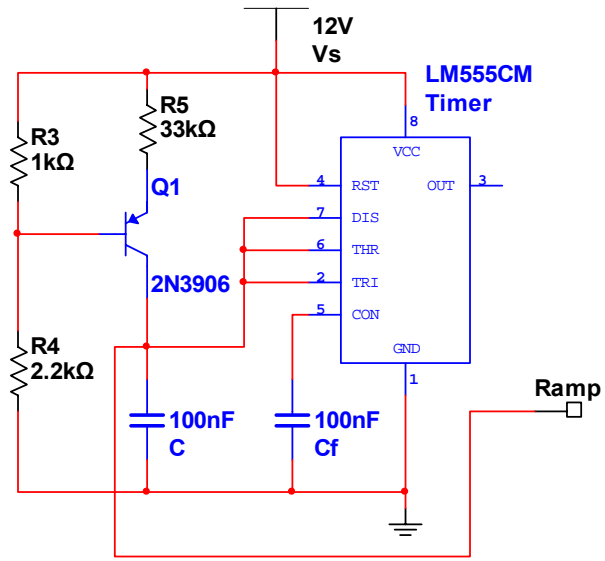

Figure 5-13 – Linear ramp astable using the constant-current charging technique.
You may recall in the previous lab that we were able to create a linear time dependence in the voltage across the capacitor (instead of an exponential time dependence) by charging the capacitor through a constant current source, implemented with a transistor. We can do the same thing with the timing capacitor on the 555 to create a linear ramp waveform. Figure 5-13 shows how this can be done.
- Construct the circuit in Figure 5-13. At this point it is advisable to clear some space on your protoboard and assemble this circuit on the leftmost side. We will add more components moving to the right, and some of these circuits will be used again in subsequent labs.